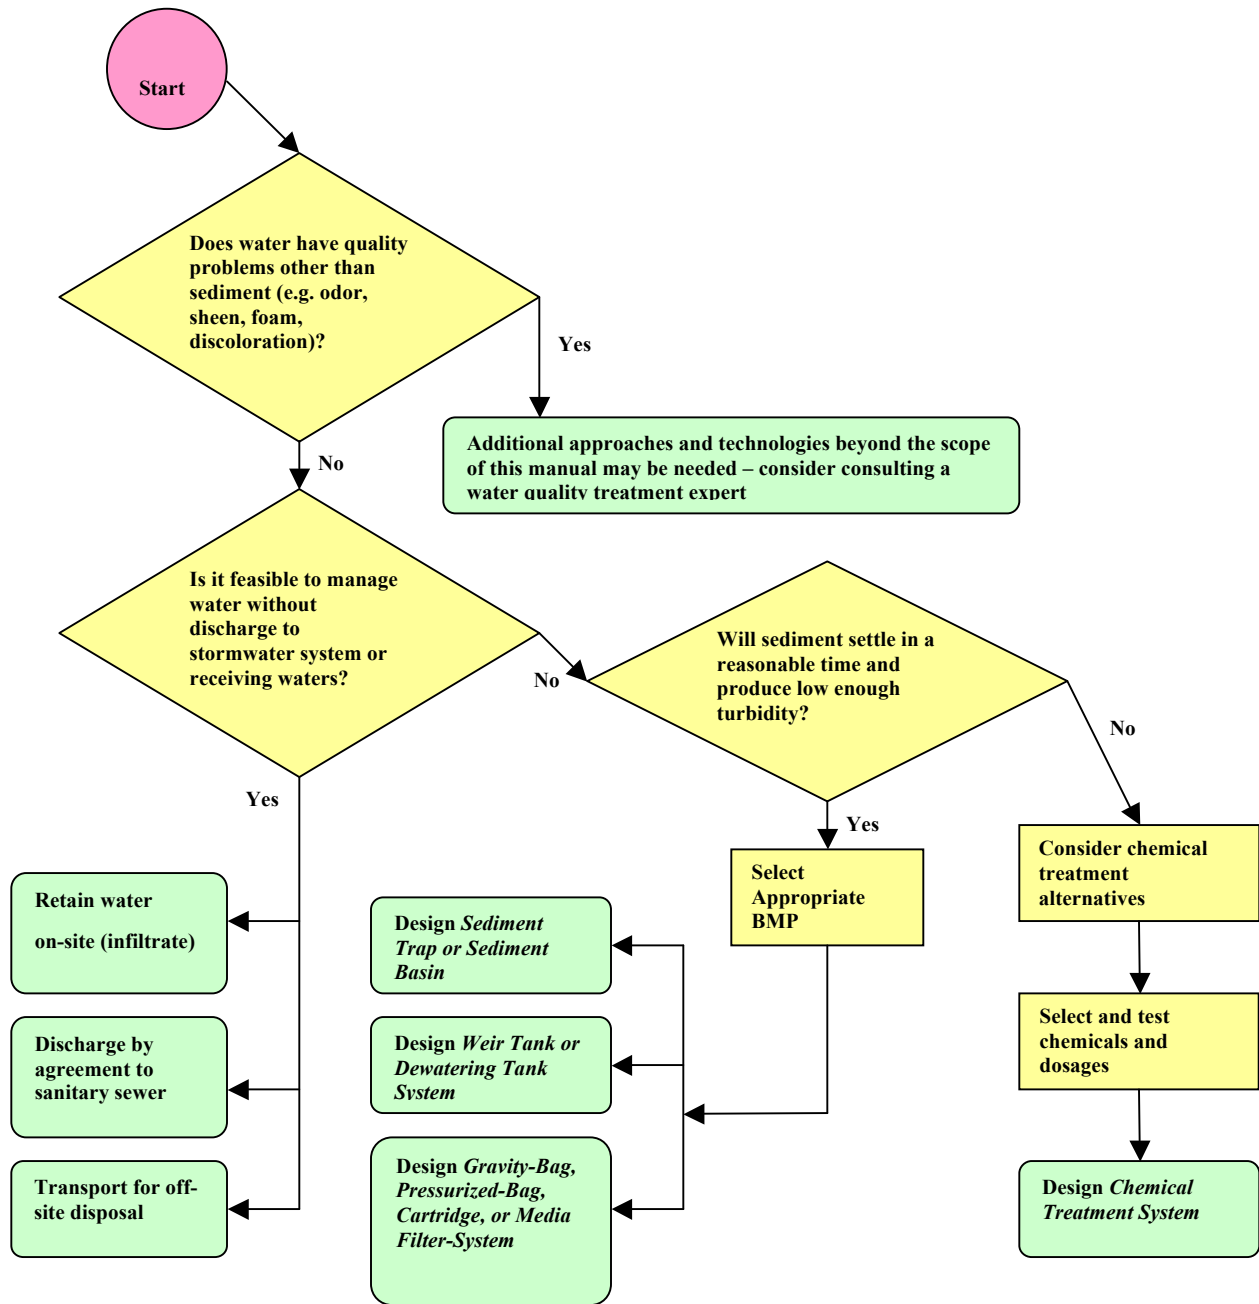

Figure AII-1. Dewatering Operations Flow Chart
- The flow chart shown in Figure AII-1 should be utilized to guide dewatering operations.